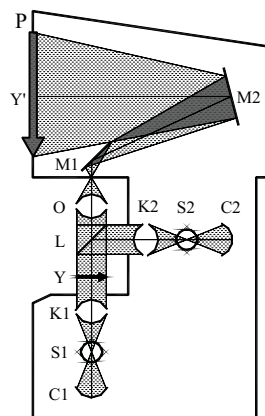

Fig.2 Working principle
The working principle of the profile projector showed as Fig. 2. Work-piece for measuring **Y** is put on the work table. Under the illumination of transmission or reflection, it is magnified by lens **O** and imaging **Y'** (up side down with **Y**) while reflects through **M1** and **M2** onto the granulate plane of the projective screen **P**. When the reflective mirror **M1** is turned to the redirecting system, **Y'** will be up-side-up with **Y**. This would be more convenient for users to measure because the **Y'** is exactly the same position as the work-piece. ISP-AZ3020 is called "positive image" projector.
4.1.1 Projection box: including the lens(See 8), reflective mirror M1 and M2 (Fig. 2) projective screen(See 1)which is imaging-system and ISP-D3000 multi-functional data processing system (See 30). The rotating system of the projective screen is installed with the angle encoder.